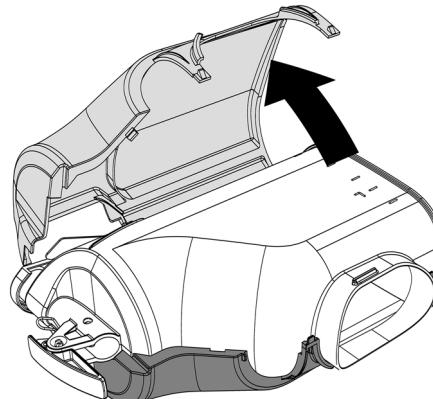
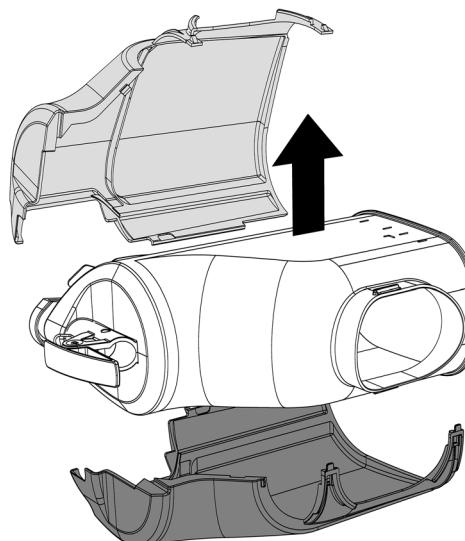

figure 14
figure 15
- Remove the left-hand part and then the right-hand part of the recover. (see figure 14)(see figure 15).